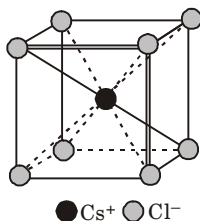

Fig. 7. Cesium chloride structure.
1. (Fig. 7) shows the arrangement of Cs⁺ and Cl⁻ ions. Both have a coordination number 8.